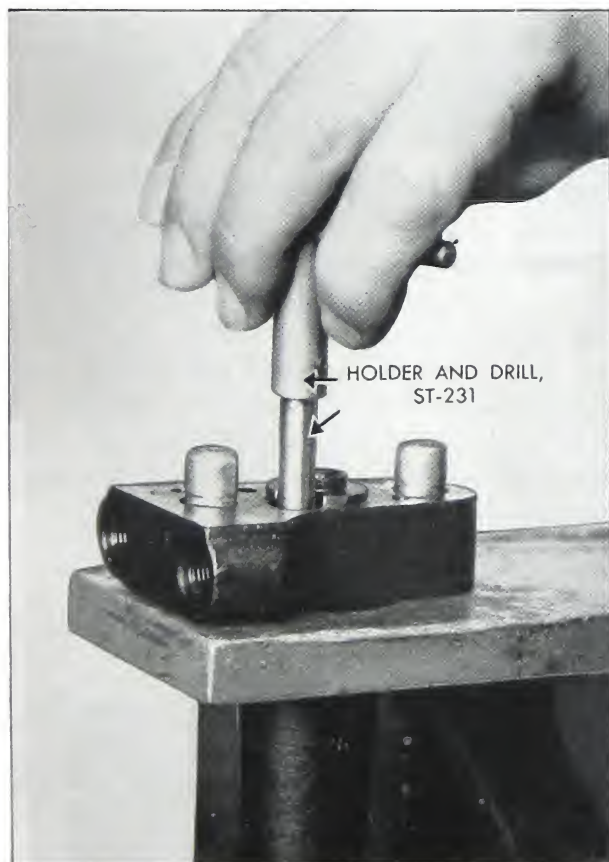

Fig. 6-13. Cutting out injector check valve seat gasket
16. The check valve seat gasket must be replaced with a new one each time the check valve is removed. Sometimes this gasket remains tightly swaged in the hole. ST-231 is a simple tool to remove the old gasket. Insert the tool and cut the gasket from the body as shown in Fig. 6-13. If the gasket turns and can not be cut, swage it tightly in place with a round nose punch made from an old Model A injector plunger.